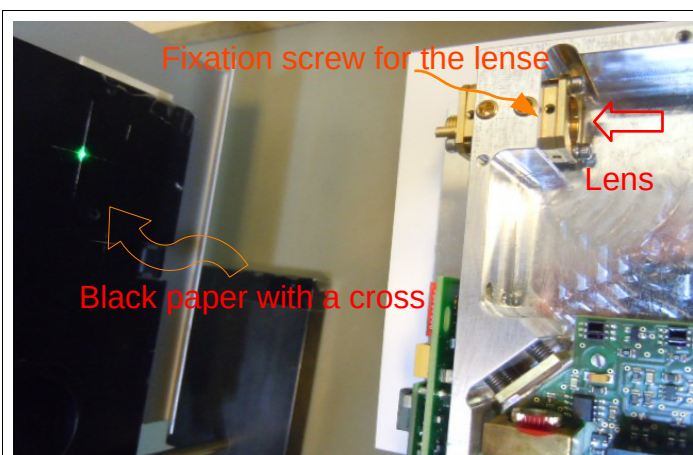

Figure 42:
- open the fixation screw for the lens (Figure 42:) and take the lens backwards out